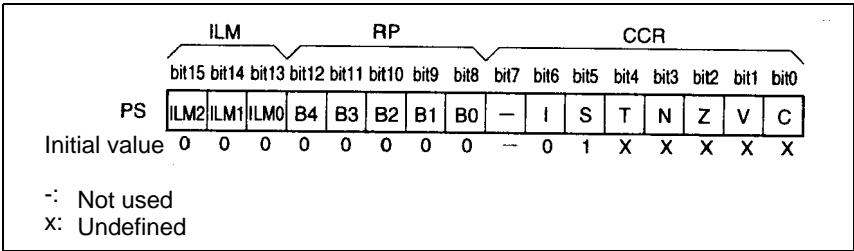

Figure 2.7-8 Processor status (PS) configuration
- Register bank pointer (RP)
■ Processor status (PS) configuration
The processor status (PS) consists of CPU control bits and bits that indicate the CPU status. Figure 2.7-8 shows the configuration of the processor status (PS).